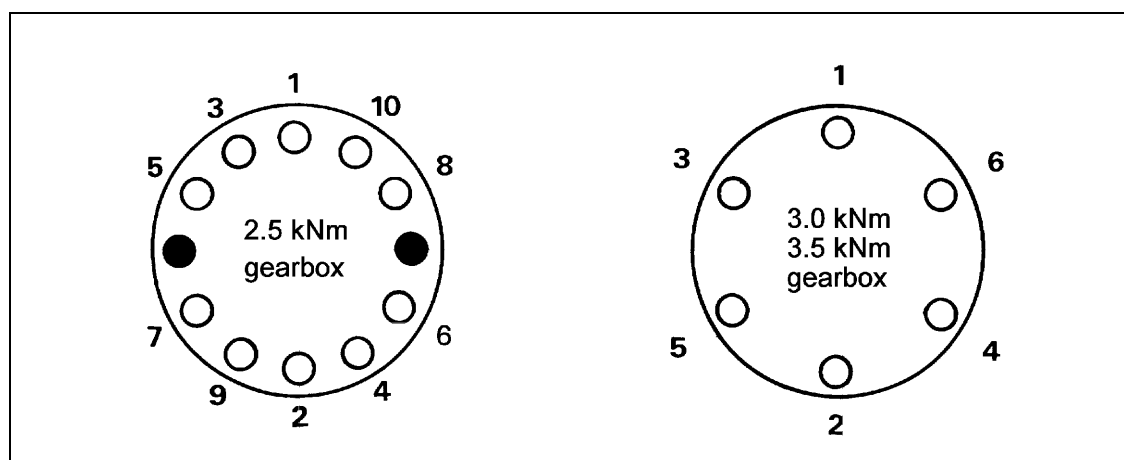

Figure 4.1.5
2.5 kNm Gearbox Insert the ten screws (5/16" UNC) assembling the gearbox adapter to the gearbox and tighten them to a torque of 22 Nm (195 in-lbs) in the sequence indicated in Figure 4.1.5. *Be sure to use an 1/4" hexagon key and not a 6 mm key, as this might damage the screws.*
3.0 kNm Gearbox Insert the six screws (M16) assembling the gearbox adapter to the gearbox and tighten them to a torque of 197 Nm (1743 in-lbs) in the sequence indicated in Figure 4.1.5.